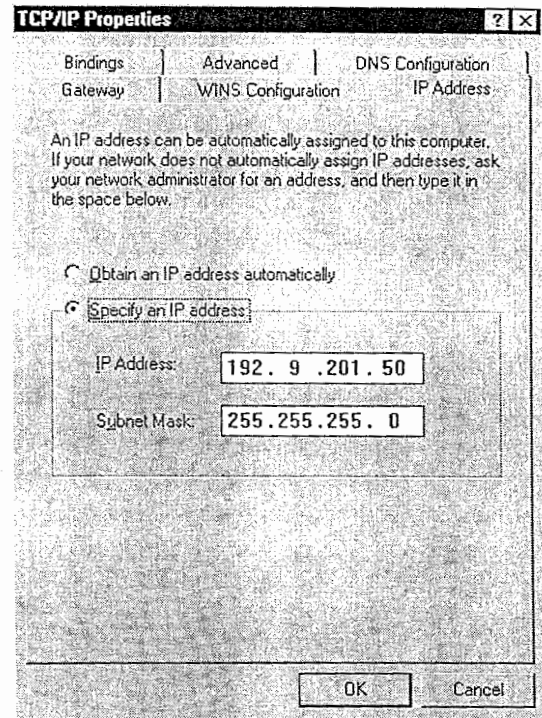

Figure 6-9. TCP/IP Properties Window.
7. Click on the TCP/IP line, and then click on the **Properties** button. The TCP/IP Properties window opens. See Figure 6-9.
9. Enter a number into the IP address field that is similar to the number displayed in Figure 6-9. A period moves you to the next field.